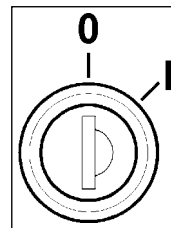

Fig. 25
- Insert the key in the key switch (Fig. 25).